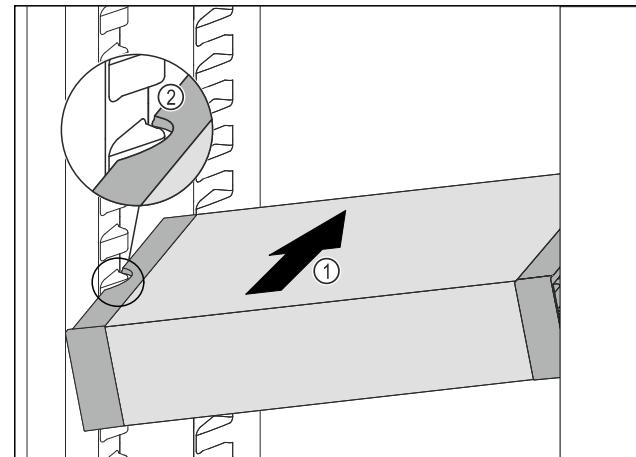

Fig. 98
- ▶ Insert the VarioSafe into the refrigerator compartment at an angle *Fig. 98 (1)* until the recesses in the side *Fig. 98 (2)* of the VarioSafe are at the level of the support rib in the refrigerator compartment.